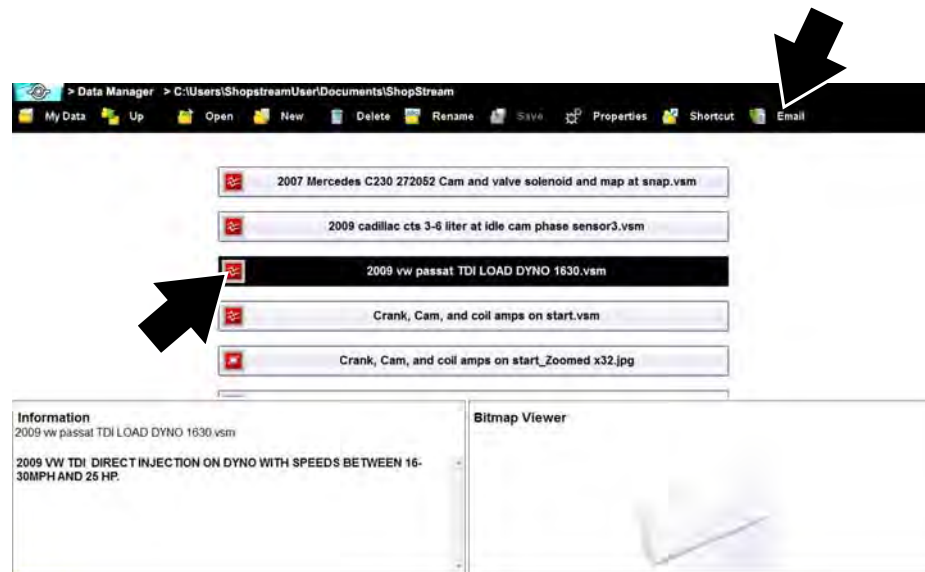

Figure 10-7
1. From the Data Manager main screen, select a file from within one of the folders (e.g. Camera, Scanner Data, Scope Multimeter, etc). In this example (Figure 10-7), a Scope data file was chosen.